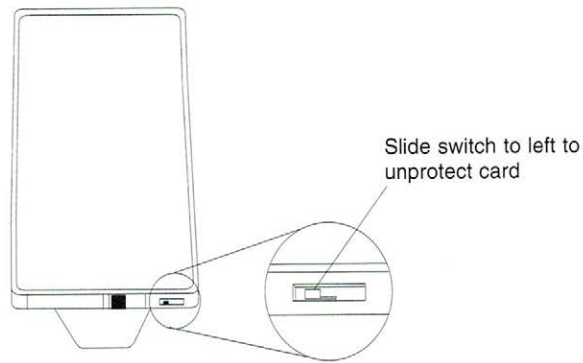

Figure 5-2. Set the Write-Protect Switch
The write-protect switch prevents data from being written or erased on the storage card. Figure 5-2 shows the write-protect switch in the unprotected position; the storage card can be read or written to. The switch write-protects the card when it is pushed towards the outside edge of the card (opposite from the position shown in Figure 5-2).
1. Set the write-protect switch in the proper position, as shown in Figure 5-2. Push the switch towards the outside edge of the card to write-protect the card; or push the switch towards the middle of the card if you want to read and write to the card.